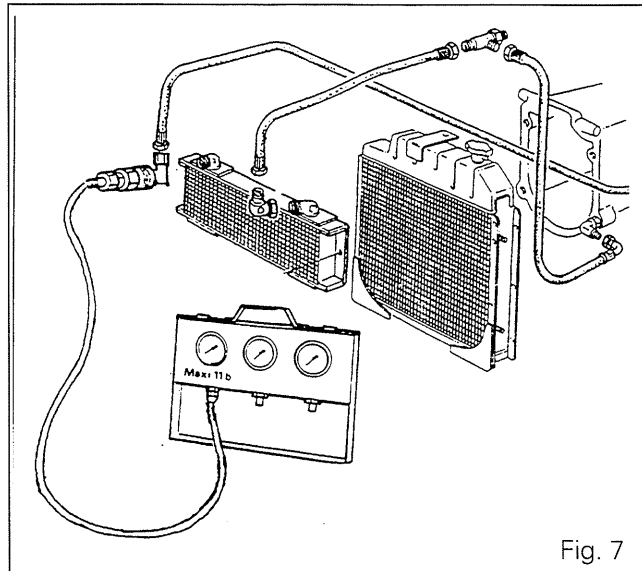

Fig. 7
- Install a diagnostic point on the oil cooler inlet (Fig. 7).